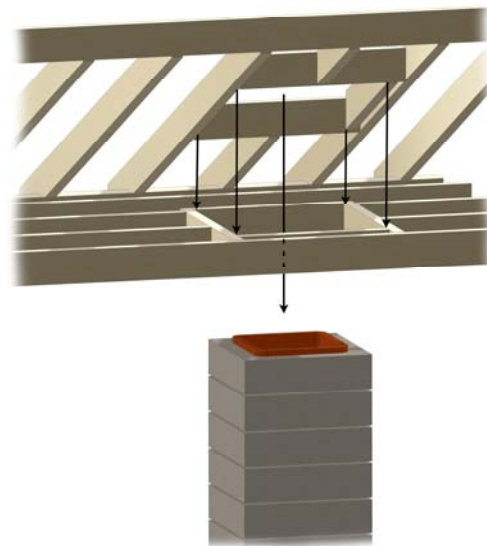

Figure 25. Roof Penetration
C. Measure to all sides of the nail and mark the required opening, and then cut a hole in the roof. Remember that the hole is measured on the horizontal, and then projected to the roof. The hole may then be larger, depending on the pitch of the roof. See Figure 25.